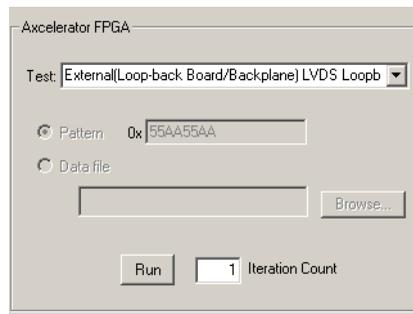

Figure 2-17. Running the Backplane Demonstration Test
- 1. From the Test selection bar menu, select the External (Loop-back Board/Backplane) LVDS Loopback.** See Figure 2-17.